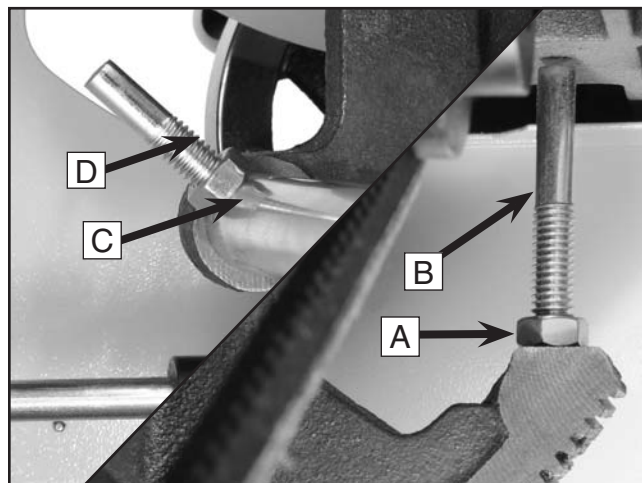

Figure 68. 90° and 45° stop bolt adjustments.
6. If a gap exists at either the top or bottom of the square, loosen the lock nut A and adjustment bolt B shown in **Figure 68**.
11. If variations exist, loosen the lock nut C and adjust the stop bolt D (**Figure 68**) until the blade and square match.